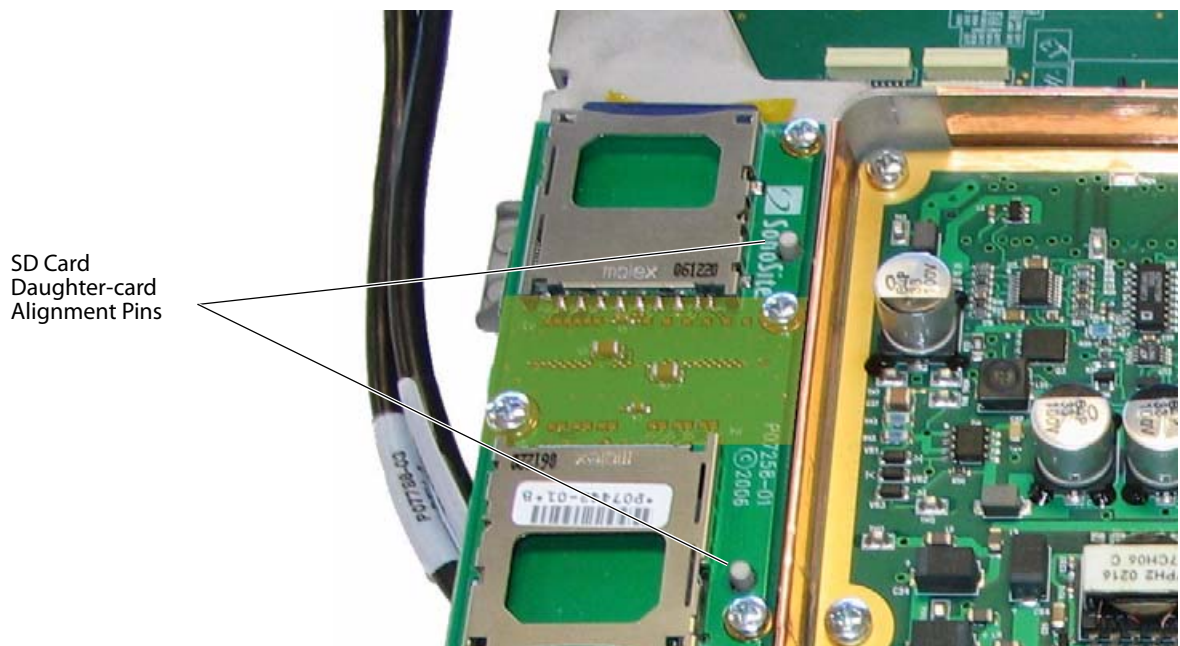

Figure 4.16 SD Card Daughter-card Alignment
- 12 Install the SD Card Daughter-card onto the Power Supply PCBA Frame using the alignment holes/pins on the card and frame as shown in Figure 4.16.